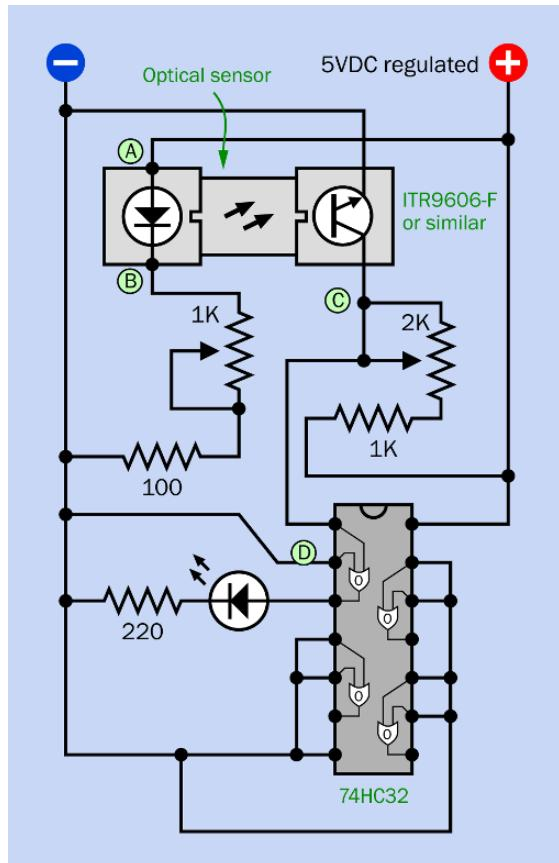

Figure 31-5. Schematic for testing a transmissive optical sensor in conjunction with an OR logic chip.
In Figure 31-5 I'm suggesting that you test the sensor with a quad two-input OR logic chip. The reasons for this will become clear as we go along. A picture of the breadboarded circuit is in Figure 31-6.
In Figure 31-5, adjust the 1K trimmer to its maximum resistance. (Check it with your meter before you plug it into the board, if you are in doubt.) Now measure the voltage between points A and B. It should be between 1VDC and 1.2VDC.
- Each sensor has been rotated 180 degrees compared with the way I had them in the test schematic in Figure 31-5. I turned them around to minimize the wire crossovers when driving the Darlington array. Make sure you mount your sensors with the infrared LED on the right, not the left.